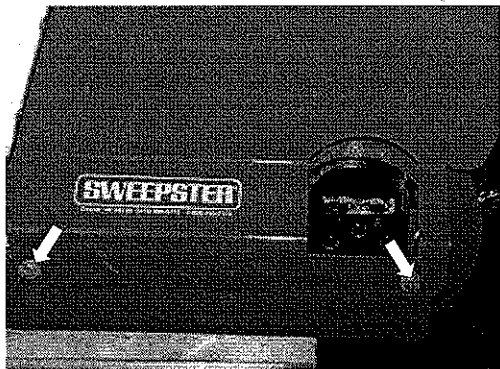

figure 22
3. Remove 2, 3/8-16 x 1 in. cap screws from each side of the hood (figure 22) and then lift the hood off the rest of the assembly.